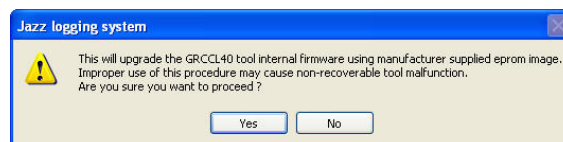

Figure 6-4 Warning Message during firmware upload
- The following message will appear (Figure 6-4). Click **Yes** to validate your selection.